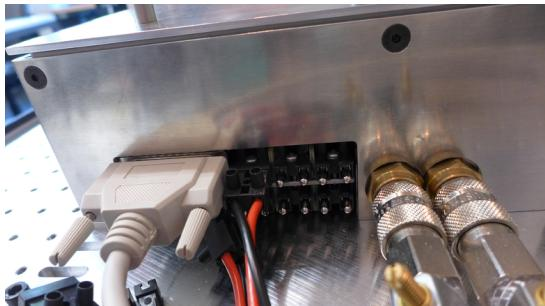

Figure 36: Verification of the functionality of the Peltier elements.
- Verify which Peltier elements are faulty by only connecting one Peltier at a time (see Figure 36). If it is faulty, the Peltier element will not draw any current as seen on the power supply.